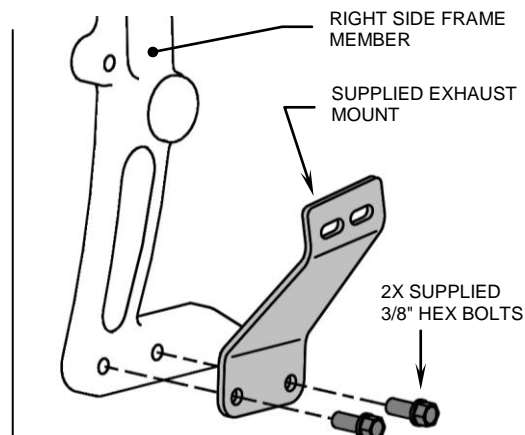

FIGURE 2
3. Install the exhaust mount bracket on the motorcycle using the two supplied 3/8" bolts. See Figure 2. **DO NOT TIGHTEN.**